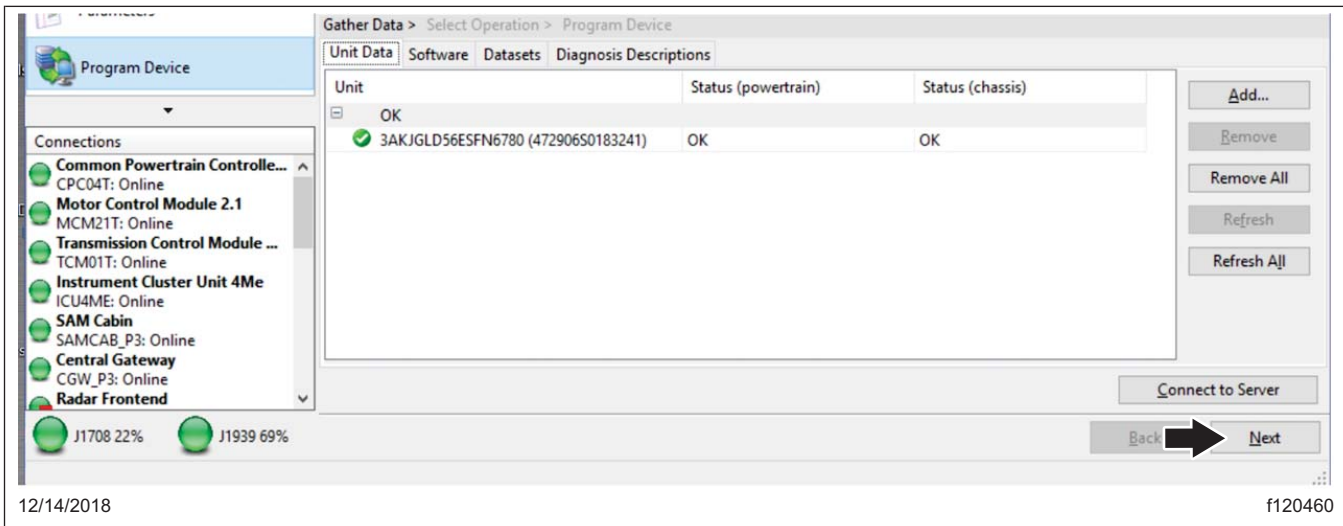

Fig. 7, Clicking Next
- Once the data has been downloaded, click "Next". See Fig. 7.